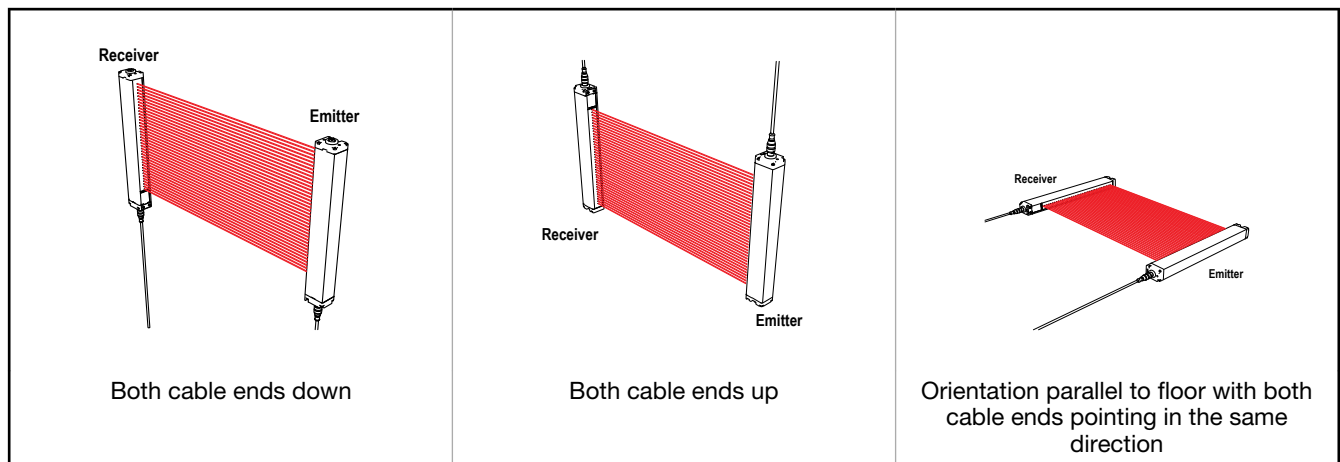

Figure 10. Examples of Correct Emitter/Receiver Orientation
**Important:** The connector ends of both sensors must point in the same direction (see Figure 10 on page 18). Loosely mount the brackets to the desired surface using the supplied M5 bolts and nuts, or user-supplied hardware. Brackets may face in or out, as desired.
3. Position the emitter and receiver in their brackets, as shown in Figure 10 on page 18. Loosely attach the front bracket plate to the bracket, at each end.
**Important:** The connector ends of both sensors must point in the same direction (see Figure 10 on page 18).